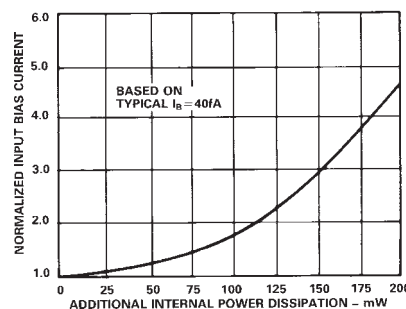

Figure 9. Input Bias Current vs. Additional Power Dissipation
3. Output loading effects, which are normally ignored, can cause a significant increase in chip temperature and therefore bias current. For example, a  $2\text{ k}\Omega$  load driven at  $10\text{ V}$  at the output will cause at least an additional  $25\text{ mW}$  dissipation in the output stage (and some in other stages) over the typical  $24\text{ mW}$ , thereby at least doubling the effects of self-heating. The results of this form of additional power dissipation are demonstrated in Figure 9, which shows normalized input bias current versus additional power dissipated. Therefore, although many dc performance parameters are specified driving a  $2\text{ k}\Omega$  load, to reduce this additional dissipation, we recommend restricting the load resistance to be at least  $10\text{ k}\Omega$ .